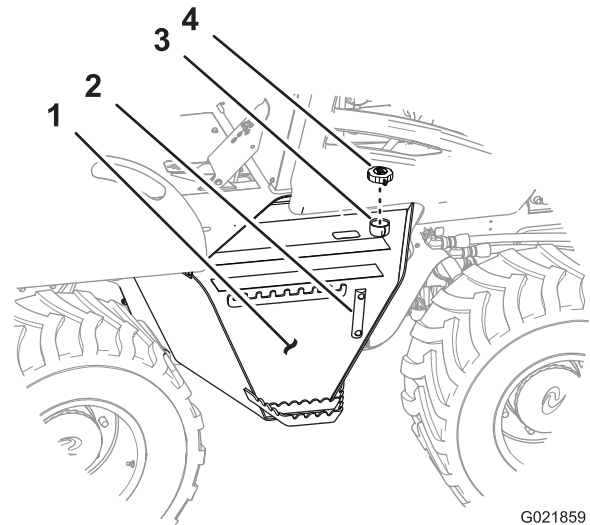

Figure 91
3. Remove the fill cap/breather from the fill tube (Figure 91).